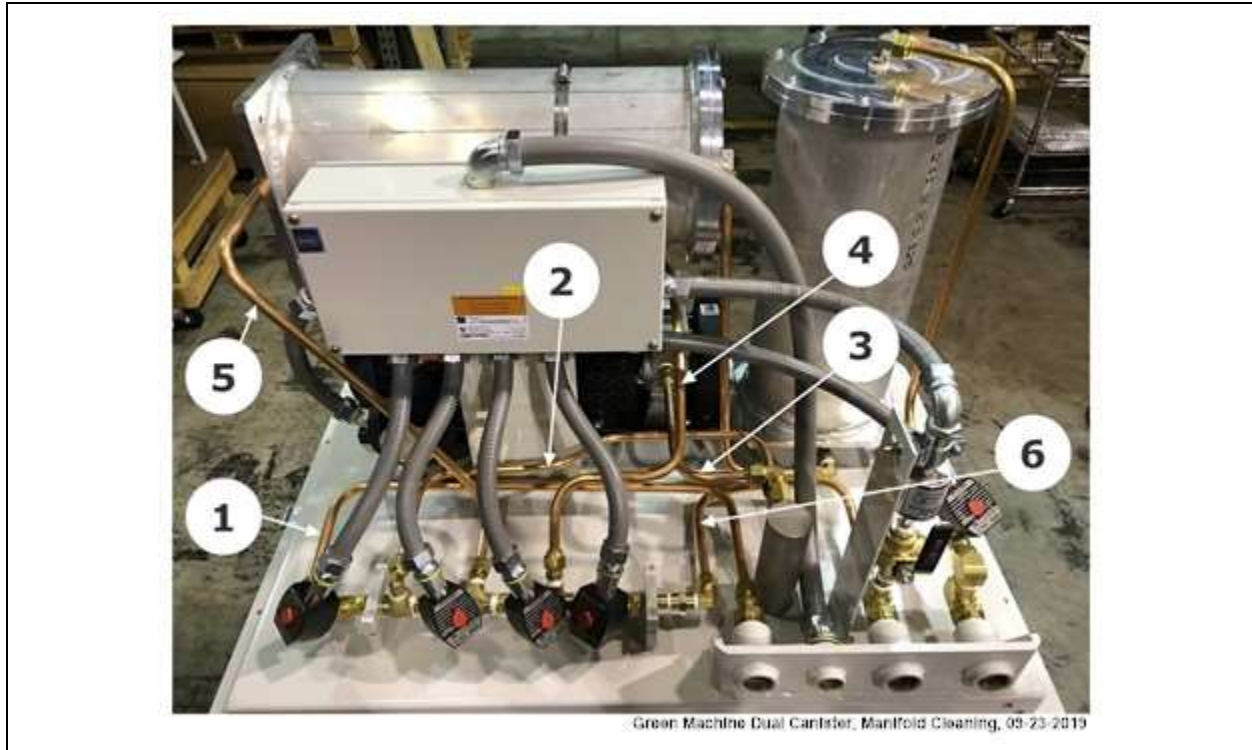

Figure 9-20: Items Associated with Cleaning the GREEN MACHINE Tubing and Manifold
See Figure 9-20.
5. Remove tubes 1, 2, 3, 4, 5, and 6 from the GREEN MACHINE. **See Figures 9-20 & 9-21.**
4. Reinstall the 6 tubes. **See Figures 9-20 and 9-21.**